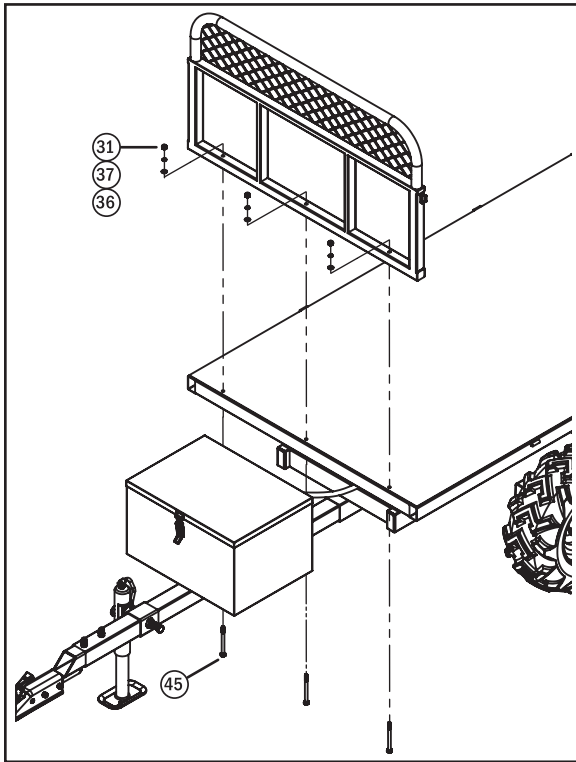

Fig. 14
Step 17: Install the Safety Cage. Install the Safety Cage (14) onto the Bed (11) as shown in Fig. 14. Align the three holes and install the M10 x 120 Bolts (45), M10 Flatwashers (36), M10 Lockwashers (37), and Locking Nuts (31). Use a torque wrench to tighten these between 30 to 35 ft-lbs (40 to 48 Nm).